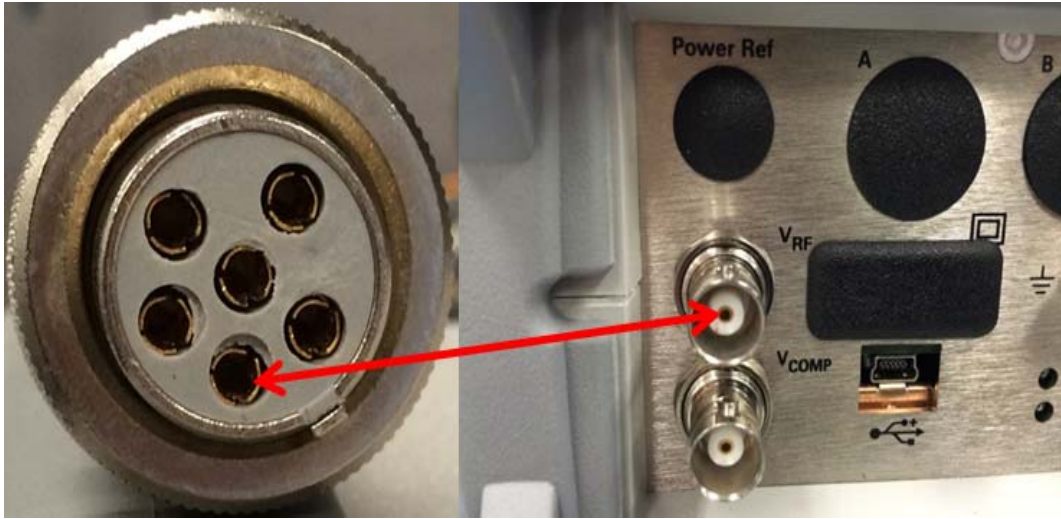

Figure 3-6. 100, 200, 300 and 400 Ohm Bridge Resistance Measurement
3. Refer to Figure 3-6. Measure the resistance from the V_{rf} BNC center conductor on the rear of the N432A to Pin 1 of the sensor cable.